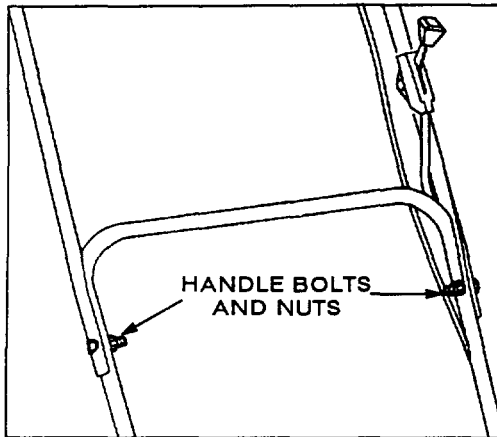

Figure 3
2. UPPER HANDLE (Fig. 3)—Position ends of upper handle on outside of lower handle. Secure upper and lower handles in place with handle bolts and nuts. Secure cables to lower handle with cable tie.